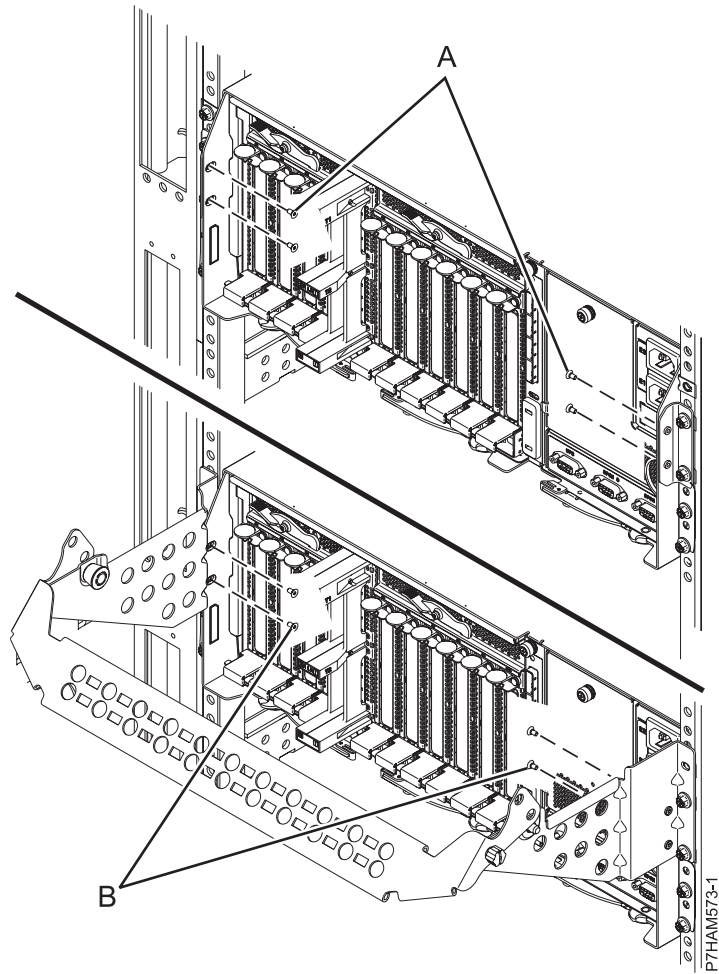

Figure 14. Applying the securing screws
- If you have installed the retention brackets, apply the four securing screws (**A**) as shown in Figure 14 on page 15.
- If you have installed the cable management bracket, apply the four securing screws (**B**), as shown in Figure 14 on page 15.